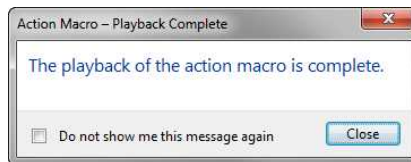

FIGURE 6.55: The Action Macro dialog box
15. Click Close when the Action Macro dialog box indicates that the macro has run to completion (see Figure 6.55).